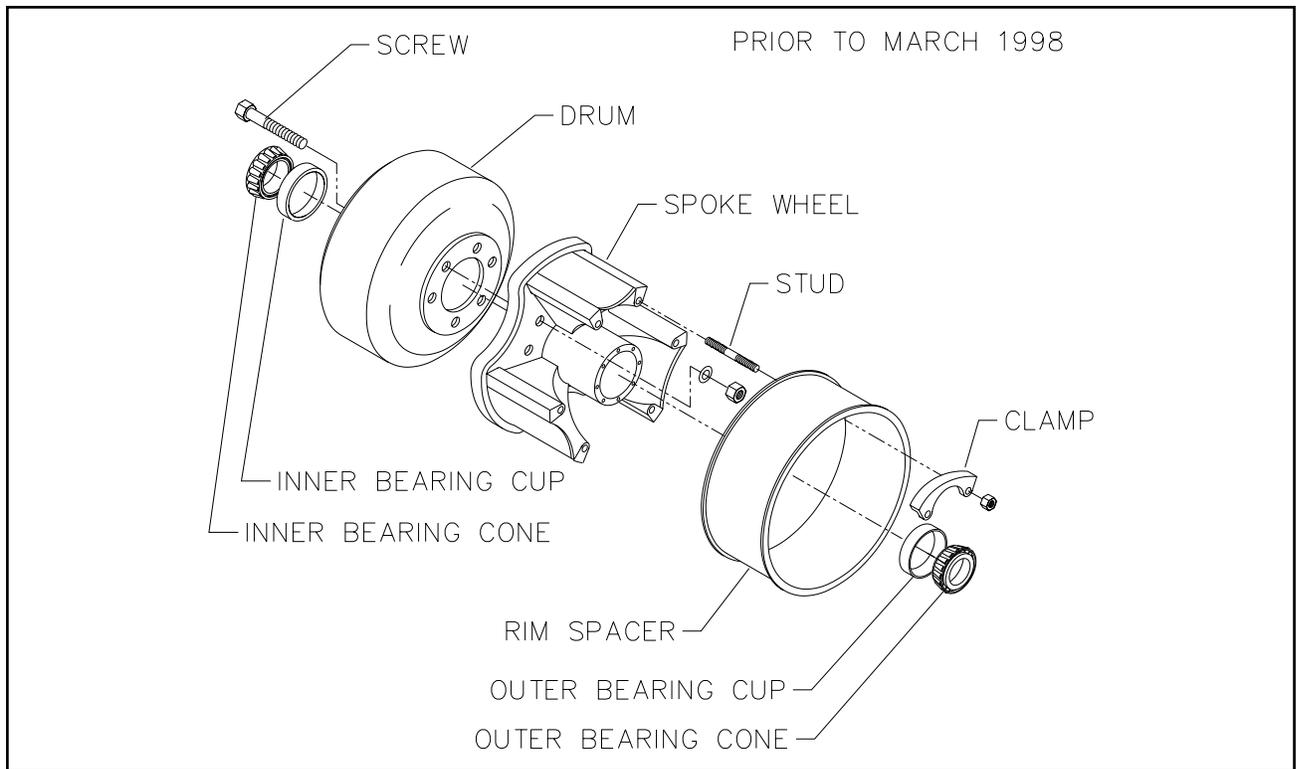
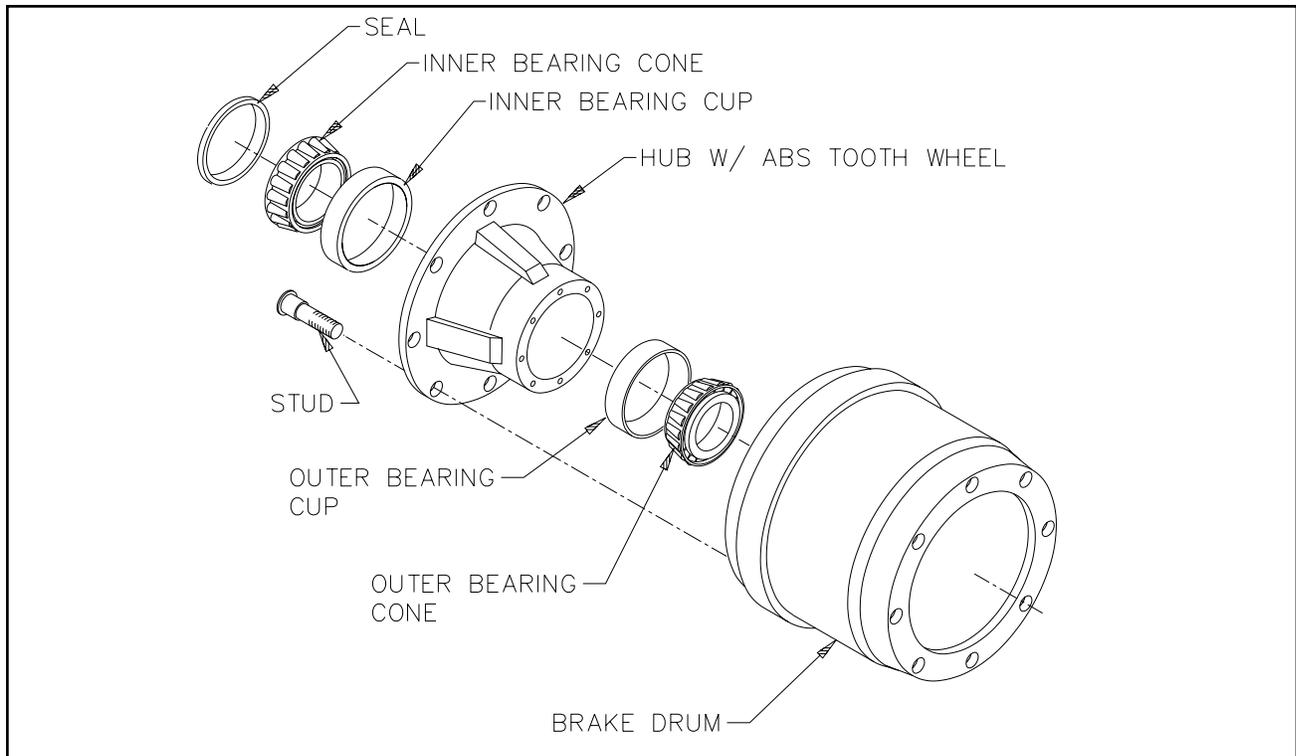
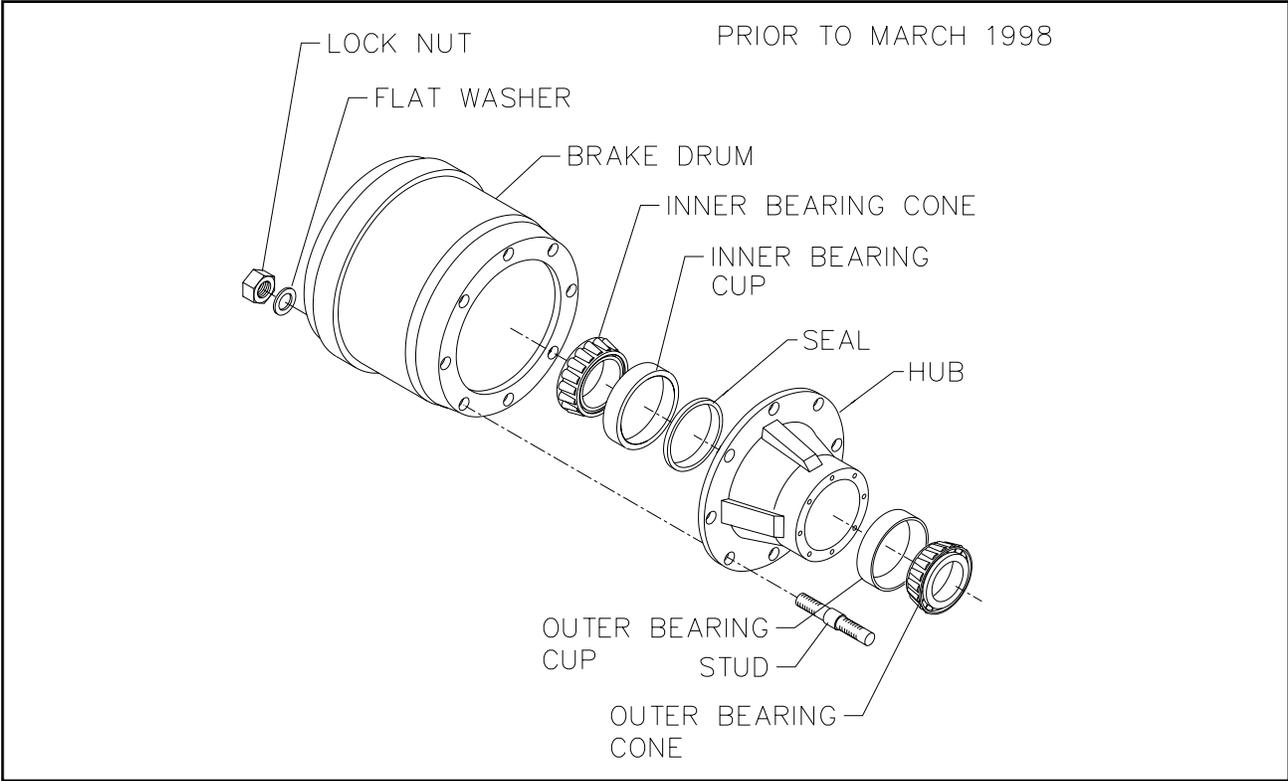

Figure 4-13 Three Spoke Wheel and Drum
Figure 4-14 Outboard Mount Hub and Drum
Figure 4-15 Inboard Mount Hub and Drum
4-9.4 Replace the hub and drum as follows (See Figures 4-13, 4-14, and 4-15):
- a. For outboard mount hub and drum remove the brake drum (See Figure 4-14). It may be necessary to release the slack adjuster. For inboard mount (See Figure 4-15) and spoke wheel (See Figure 4-13) remove drum after hub.
- s. For Outboard Mounted Brake Drum (See **Figure 4-14**) place the drum over the hub and brake shoes being careful not to damage the threads on the studs. Make sure the drum seats flat against the hub flange and mates properly with the hub pilot. There should be no interference between the brake drum pilot chamfer and the corner radius on the hub. If interference exists, the hub will not be able to function properly.